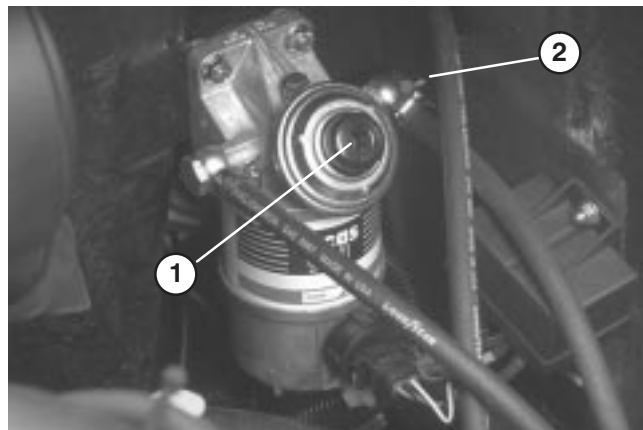

Figure 12
PRIMING FUEL SYSTEM (Fig. 12)
3. Loosen fuel filter / water separator bleed screw (Fig. 12) a few turns. Pump priming plunger until a steady stream of fuel comes out of hole in bleed screw. When fuel stops foaming, tighten the bleed screw during the downstroke of the priming plunger. Wipe up any spilled fuel.